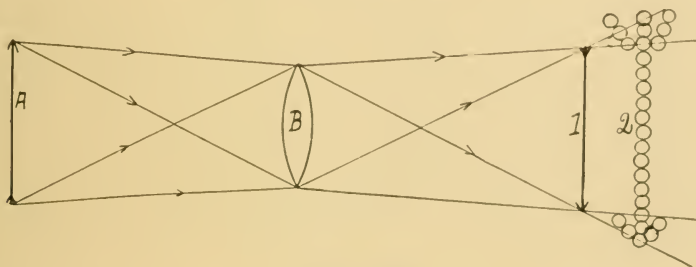

FIGURE 38
(94) In Fig. 38, we find an explanation. A, being the film, B the projection lens and 1 the screen, it is observed that at 1, the point of focus, the rays emanating from the film photograph meet the cross. If the screen were at 2 instead—and not at 1—the rays would not focus at 2 unless the conjugate foci points were altered. On this plane each point would appear as a circle and the whole image would be badly blurred. When the screen image is blurred it indicates that the rays are focused at a point or plane either before or behind the screen surface. The lens must then be moved slightly backward or forward, altering the conjugate foci points so that the rays focus exactly at the screen surface of the plane.
(95) Depth of focus is definitely a physical condition.
(96) It is in exact proportion to the speed (diameter) of a lens and its focal length. (97) All lenses having equal quality of correction, equal focus and equal diameter will have exactly the same depth of focus.